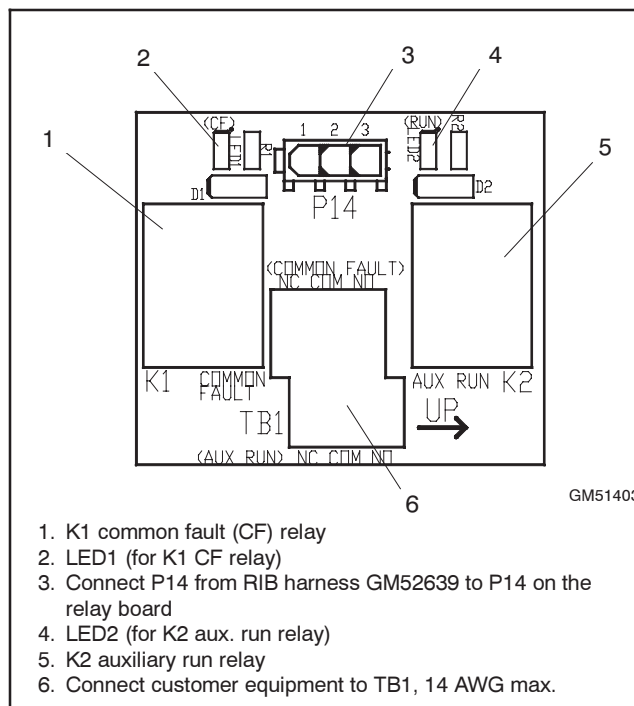
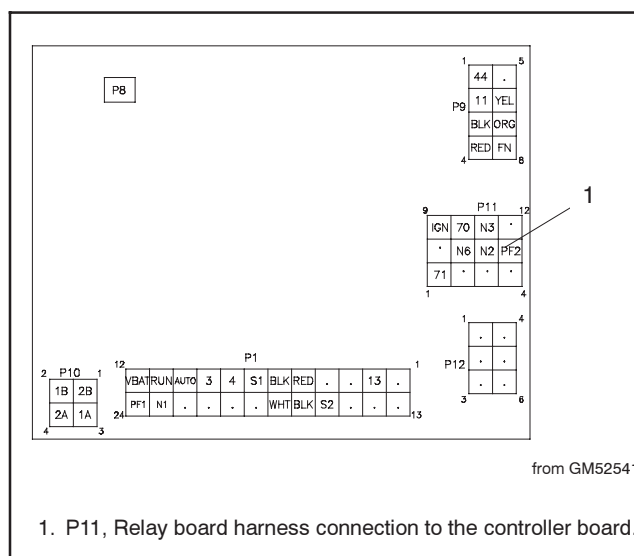
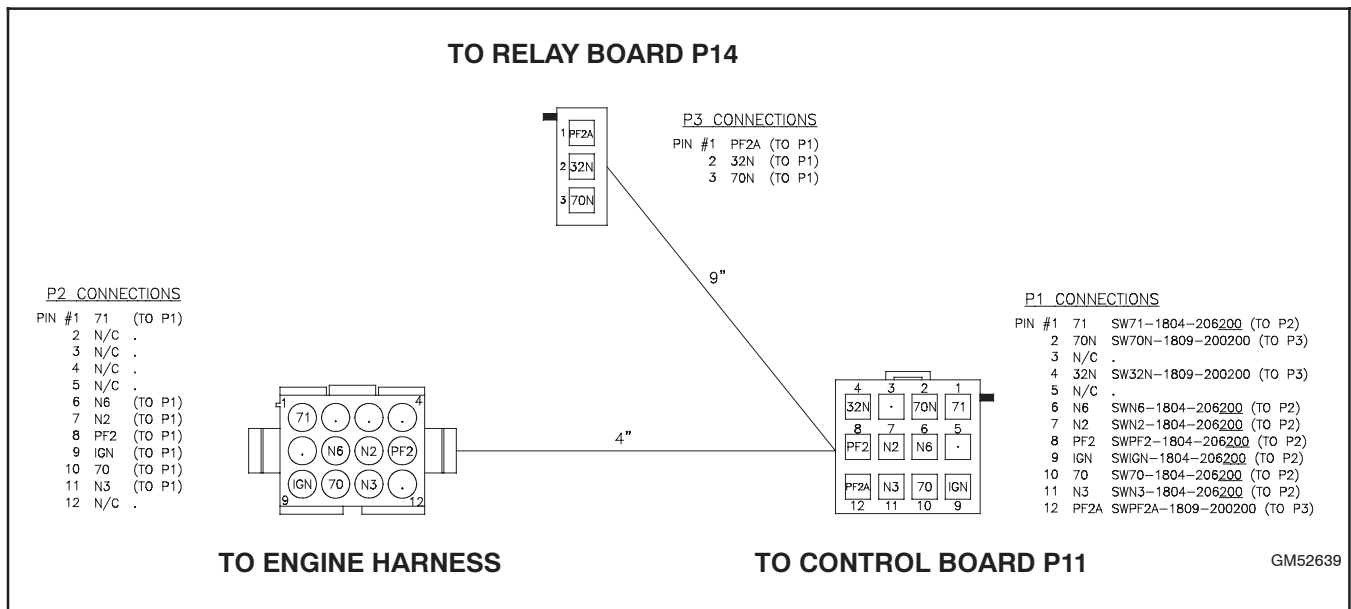

Figure 5-18 Optional Relay Board
Figure 5-19 Relay Board Harness Connection to
Figure 5-20 Relay Board Connection Harness GM52639
First check for loose connections. Check the relay board harness connections to the relay board, control board, and engine harness. See Figure 5-18, Figure 5-19, and Figure 5-20.
Check for loose customer connections to terminal strip TB1 on the relay board. See Figure 5-18 and Figure 5-21.
An LED is associated with each relay. See Figure 5-18. The LED indicates power to the corresponding relay. If the LED is illuminated but the relay is not activated, the relay is faulty. The individual relays are not replaceable. If one or more relays are faulty, replace the entire RIB. See Section 5.8.2, Relay Board Replacement Procedure.
5. Connect three-pin connector of the relay board harness GM52639 to P14 on relay board GM51403. See Figure 5-18 and Figure 5-20.
6. Verify that the relay board harness is securely connected to P11 on the control board. See Figure 5-19 and Figure 5-20.
7. Verify that the relay board harness is securely connected to the engine harness. See Figure 5-20.